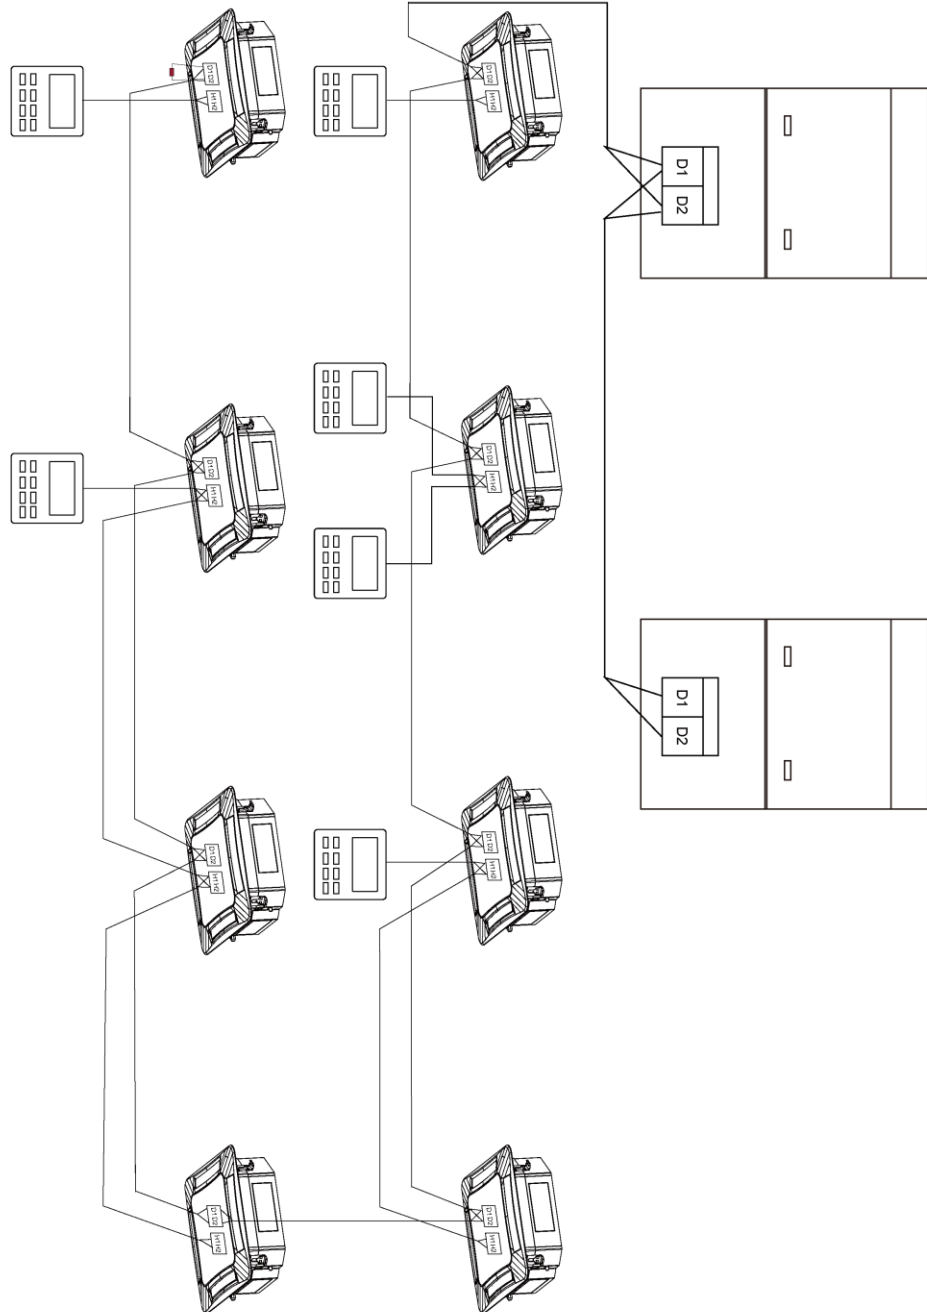

Fig. 5.5.1
- (1) Communication wire of indoor unit and outdoor unit (or indoor unit) is connected to D1, D2.
- (2) Wired controller is connected to H1, H2.
- (3) One indoor unit can connect two wired controllers that must be set as master one and slave one.
- (4) One wired controller can control 16 indoor units in maximum at the same time (as shown in fig.5.5.1).